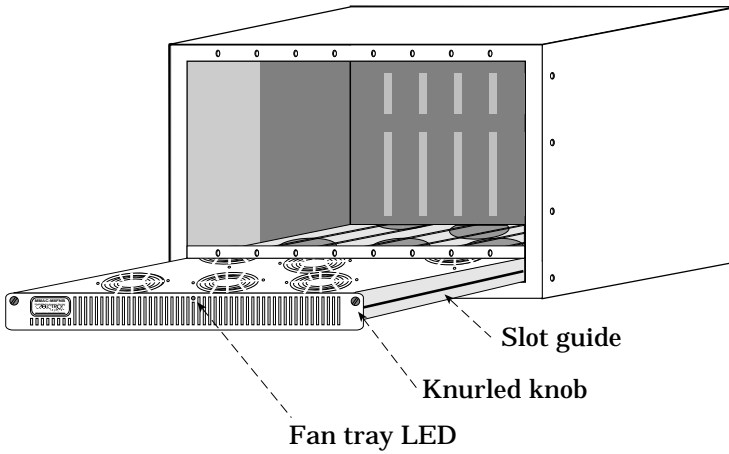

Figure 3-3. Inserting the Fan Tray
1. Hold the fan tray as shown in Figure 3-3 (following page) and align the slotted paths on the tray with the slot guides on the left and right walls of the MMAC-M8FNB chassis.